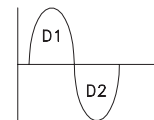

Fig E-22. The capacitor discharge generator
- The transformer secondary and rectifiers are connected to the capacitors to form a 'voltage doubler'. On the positive half cycle D1 conducts, charging C1. On the negative half cycle, conduction is via D2, charging C2. The charge on C1 and C2 add together to produce the total kV available for an exposure. **See Fig E-22.**